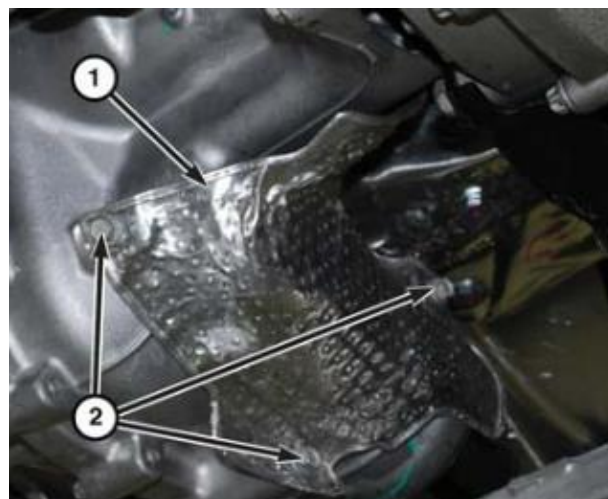

Figure 9 – PTU Heat Shield and Bolts
19. Remove the bolts (2) holding the heat shield (1) to the Power Transfer Unit (PTU) (Figure 9).
- M6 bolts to 11 N·m (8 ft. lbs.) (Figure 9).
- M8 bolts to 23 N·m (17 ft. lbs.) (Figure 9).